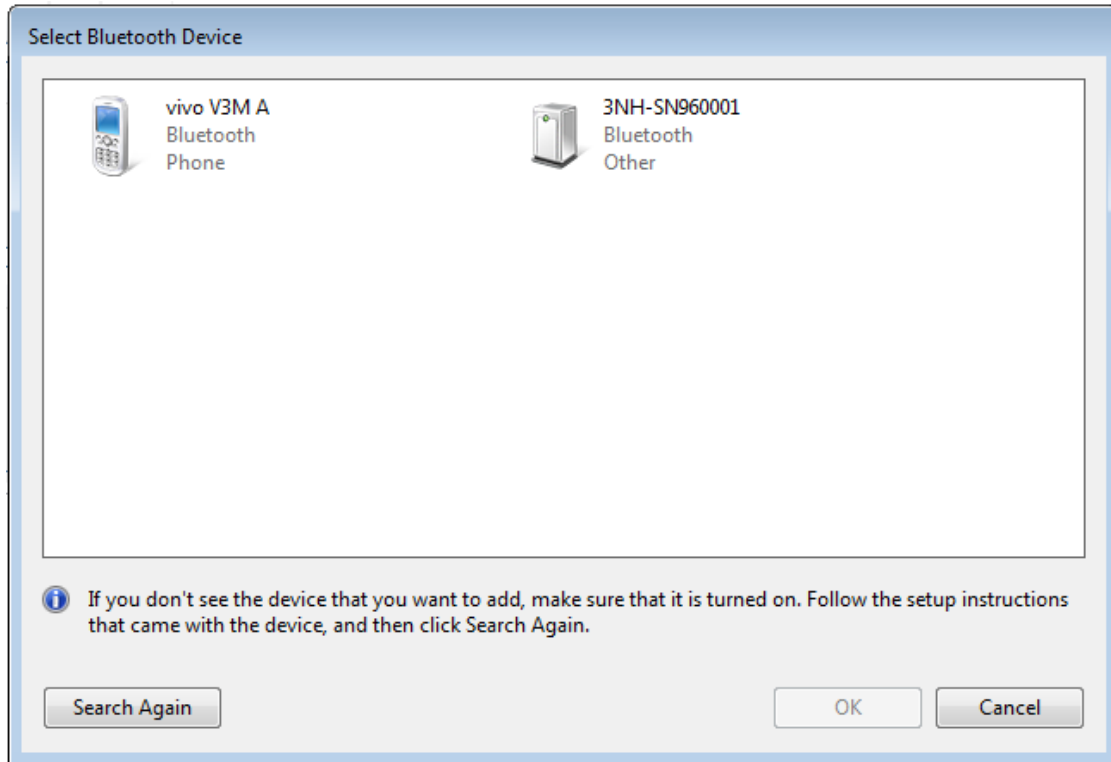

Figure 13 Select Bluetooth Device
- ✓ In the pop-up "Select Bluetooth Device" window (shown in Figure 13), select the Bluetooth device of the instrument, and then click "OK". The Bluetooth device of the instrument is usually in the form of "NH" plus the serial number of the instrument. If the serial number of the instrument is "960900", then the Bluetooth name will be "3NH-SN960900". Since the system takes time to discover the Bluetooth device, it may take a while.